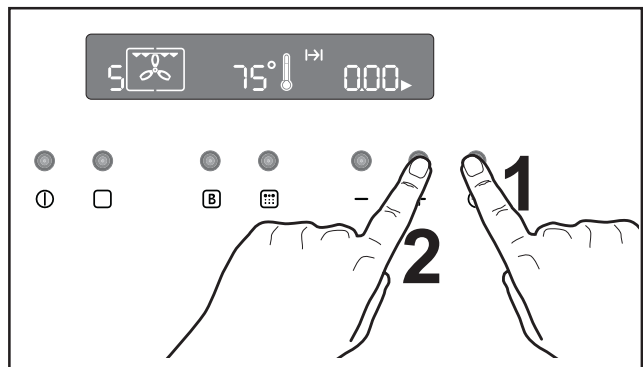

Fig. 10
2. Press time function button  to select the "Cooking Duration" function. The "Cooking Duration" symbol  will flash and the control panel will display "0.00" (Fig. 10).